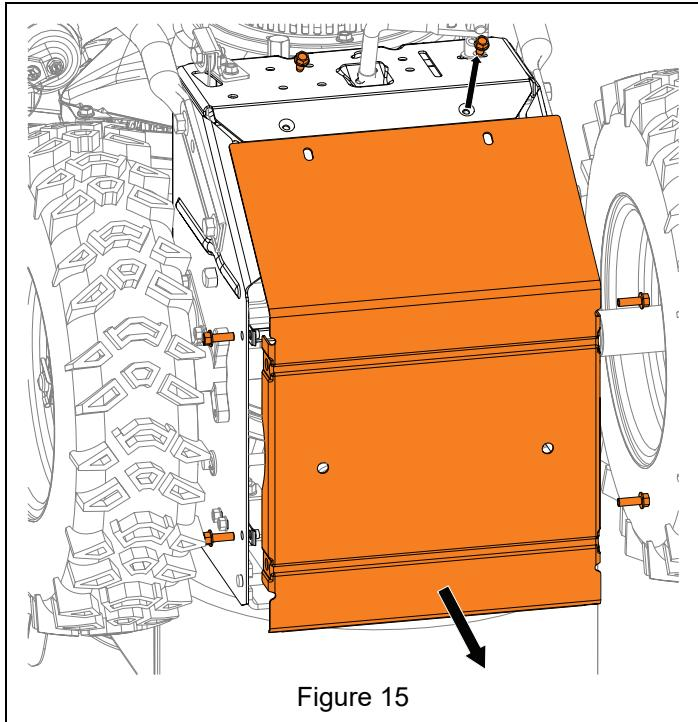

Figure 15
4. Remove hardware retaining bottom cover to frame and remove cover. See Figure 15.